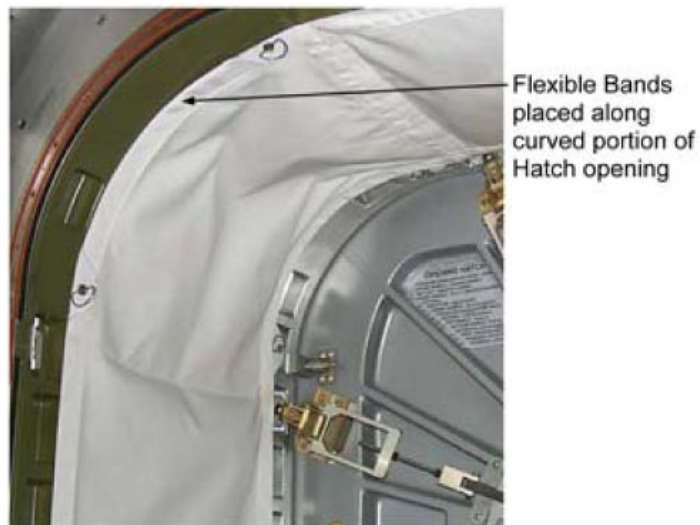

Figure 14. Closeout Installed over Vestibule.
- 10.2 Unroll Closeout while installing over CBM Vestibule. Attach 1/4 Turn Fasteners; insert into mounting brackets; tighten 1/4 Turn Fasteners. Refer to Figure 14.